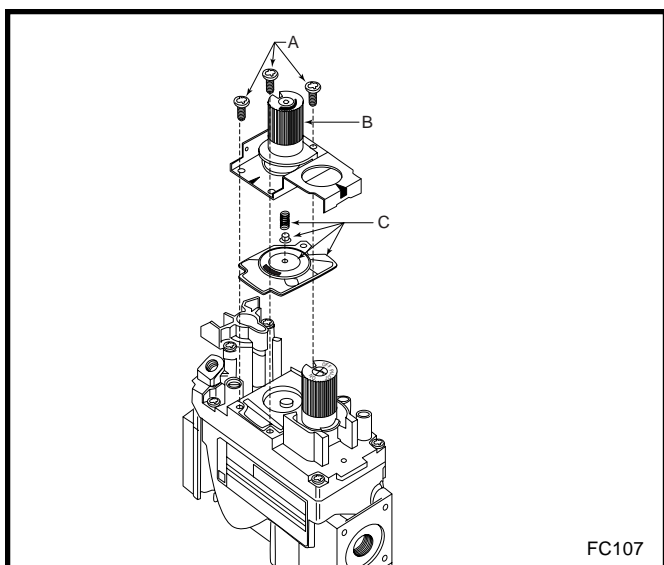

Fig. 55 Remove mounting screws, pressure regulator tower and spring and diaphragm assembly.
1. Using the TORX T20 bit, remove and discard the three (3) pressure regulator mounting screws (A), pressure regulator tower (B) and the spring and diaphragm assembly (C). (Fig. 55)